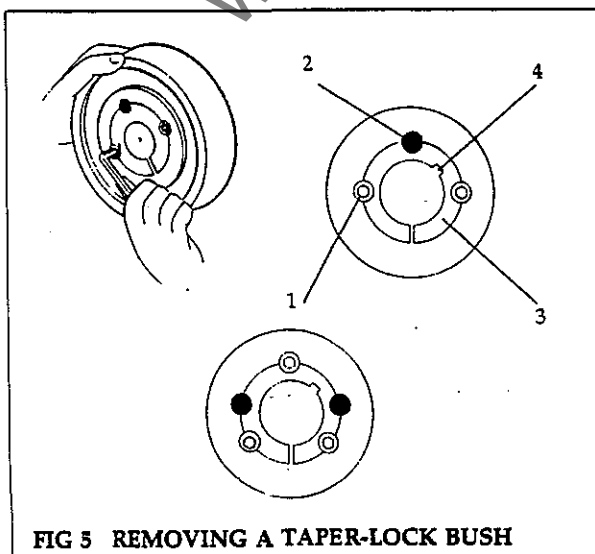

FIG 5 REMOVING A TAPER-LOCK BUSH
Removal and Refit Drive Pulleys (Fig 5)
- (1) Unscrew setscrews (1) and (7) and remove cover from drive.
- (2) Remove drive pulleys as items A, B and C above.
- (3) Unscrew hexagon head screws securing motor to bedplate and remove motor.
- (4) Remove intermediate drive as for **Remove and Refit Drive Pulleys (Fig 5)**.